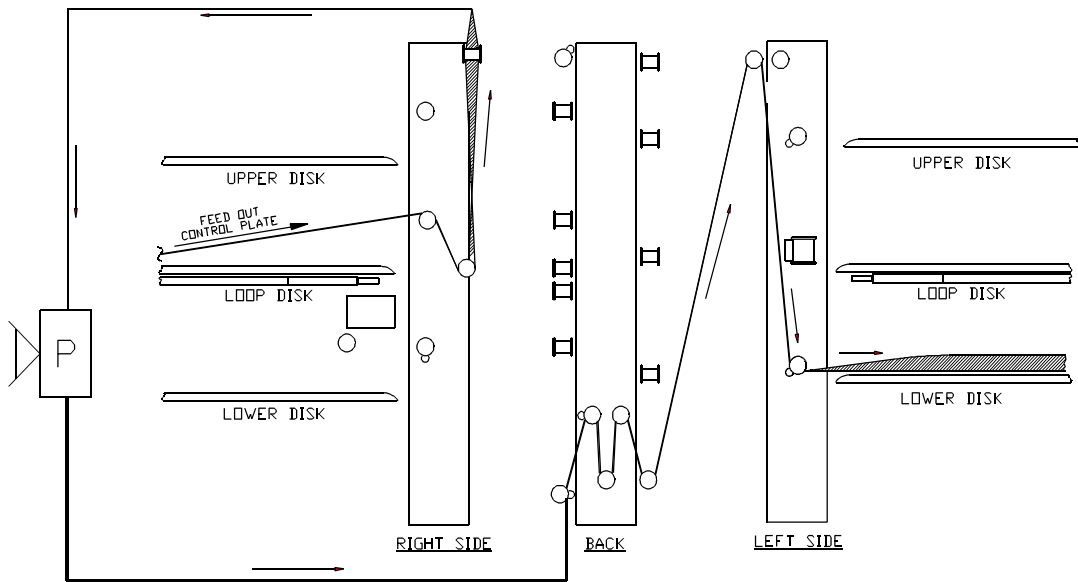

Figure 7
1. From the Loop Control Plate through the Projector back to a Non-Loop Platter, then breaking down the program as you would a normal platter. This is the recommended choice (shown in Fig. 7, Page 7).